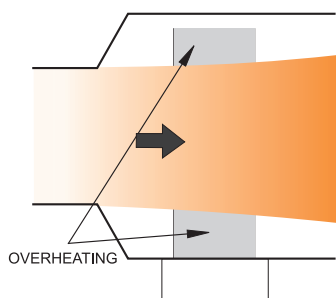

fig.2.25
- ⚠ If the electric heater is located too close to a transition, 2 overheating areas at the edges of the heater may occur (fig 2.25).